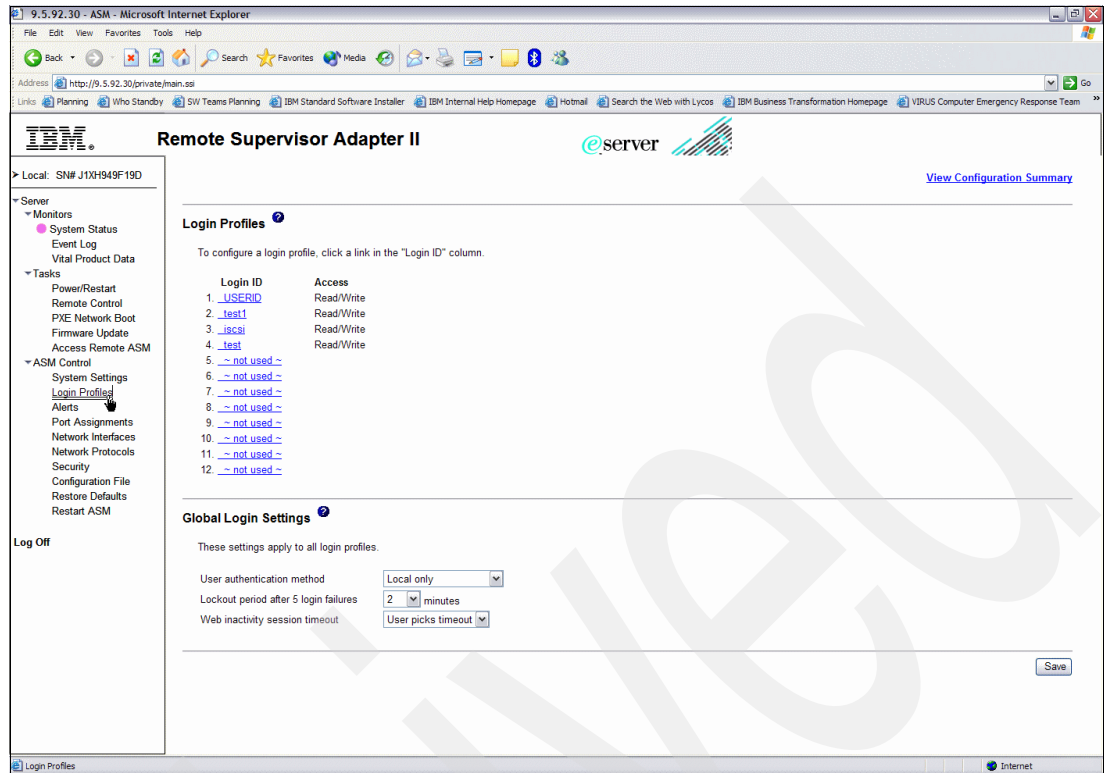

Figure 5-44 Login Profiles on RSAII
5. Select **Login Profiles** under **ASM Control** in the navigation pane on the left side of the window. The Login Profiles defined in the SP are shown in Figure 5-44 on page 142. Click the default user **USERID**.